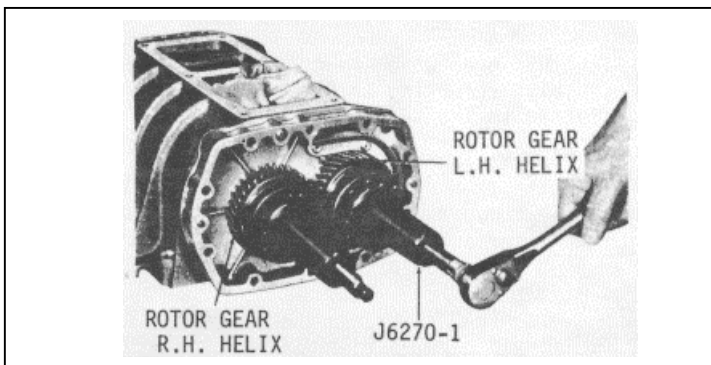

Fig. 4. Removing Blower Rotor Gears from Blower Rotor Shafts
- (c) With the shop towels between the blower rotors and housing to prevent them from turning, turn the puller screws uniformly clockwise and pull the gears from the rotor shafts (Fig. 4).
- (6) Remove the bolts and lockwashers securing the rotor shaft bearing retainers (6) to both the front and rear end plates. Remove the retainers.
- (7) Remove the blower rear end plate and bearing assembly from the blower housing and rotors with the two pullers J 6270-1 as follows:
- (a) Remove the two fillister head screws (26) securing the rear end plate (24) to the blower housing, and loosen the two fillister head screws securing the front end plate (23) to the housing approximately three turns.